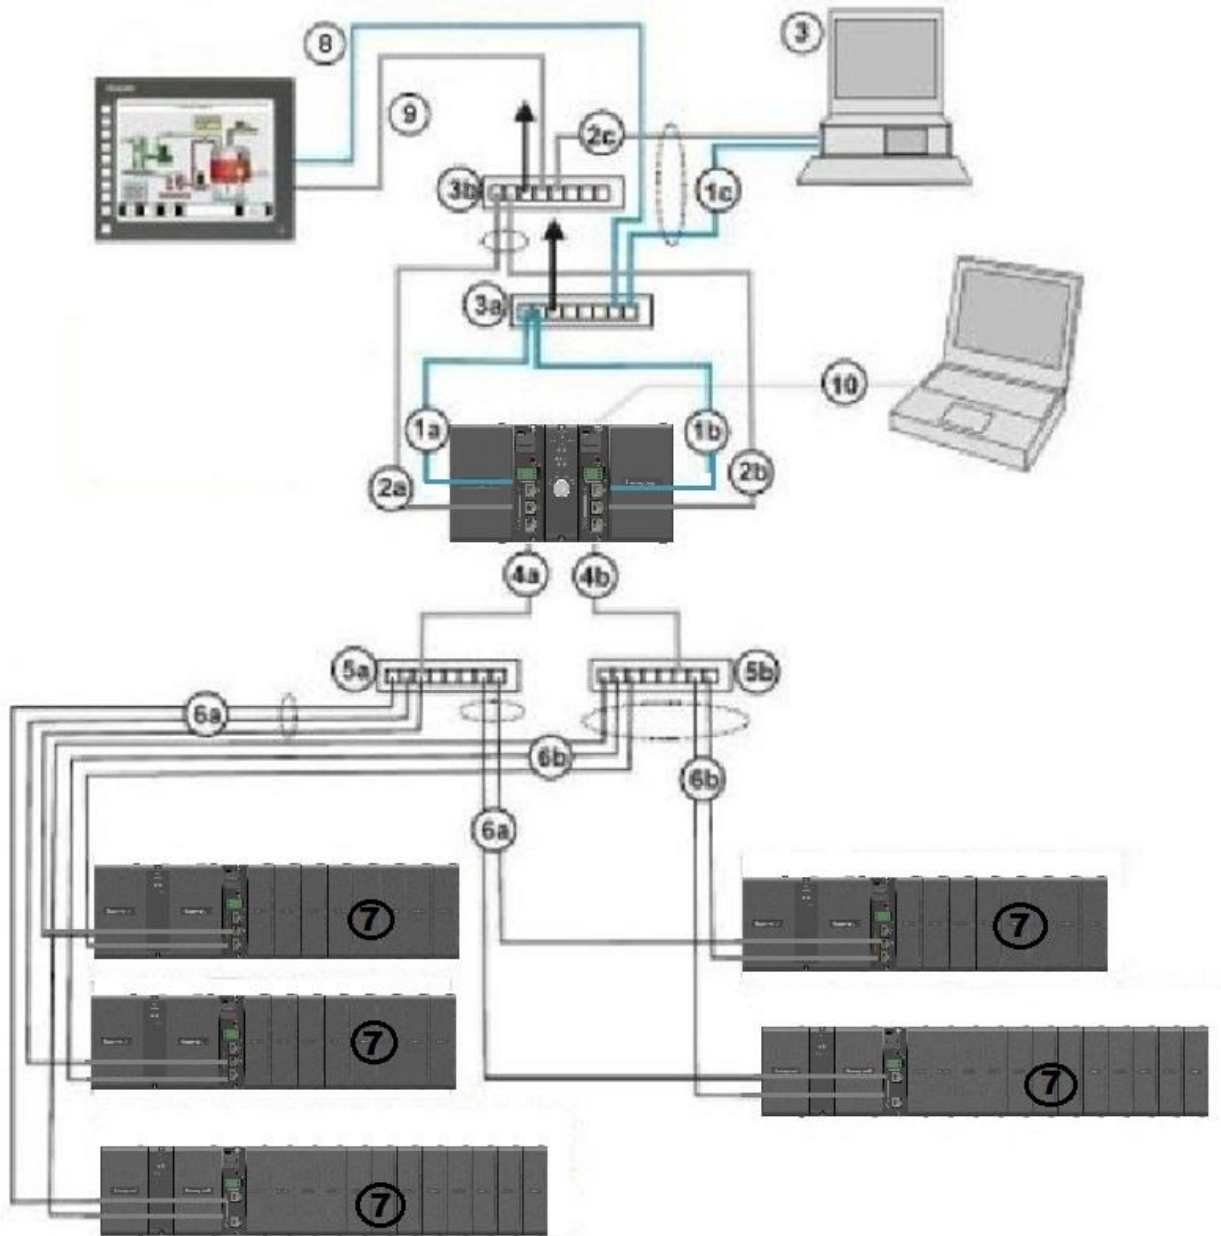

Figure 90 – Dual Networks (see
Only use Shielded CAT 5 cable for network connections. See Figure 90 and
**Table 22 – Dual Network connections in Figure 90**